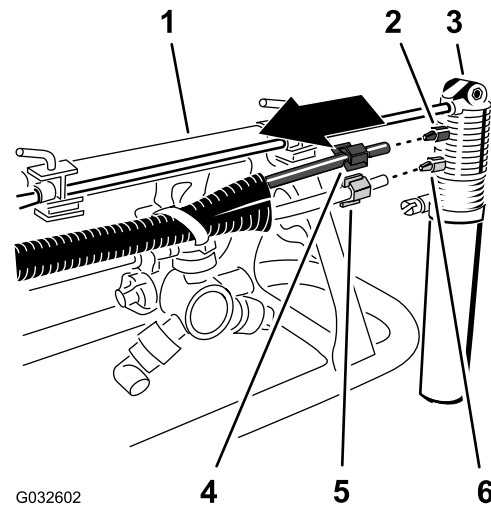

Figure 11
2. At the foam-marker nozzle, loosen the compression nut that secures the blue tube (water) to the blue compression fitting of the foam-marker nozzle (Figure 11).
3. Loosen the compression nut that secures the clear tube (air) to the white compression fitting of the foam-marker nozzle (Figure 11).
5. Remove the compression nuts at the ends of the tubes (Figure 11).